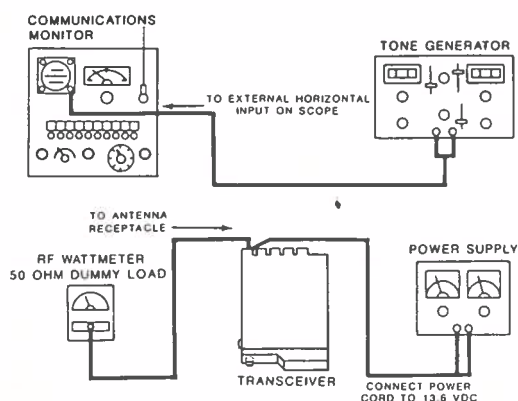

Figure 4. Tone Board Encoder Alignment
1. Connect the test equipment as shown in Figure 4.